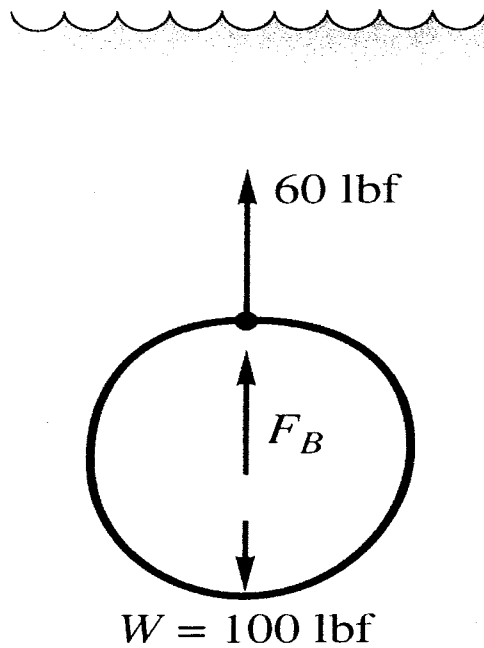

Figure 11
6. (a) A block of concrete weighs 100 lbf in air and 'weighs' only 60 lbf when immersed in fresh water (62.4 lbf/ft^3). Determine the average specific weight of the block. (Please see Figure 11).